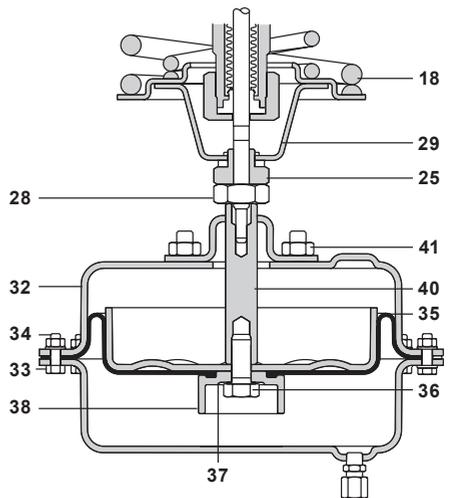

Fig. 9
4.4.1 To renew actuator diaphragm and sealing washer (Figure 9):
- Remove the actuator housing nuts and bolts (33, 34) and separate actuator housing (32).
- Unscrew hex. headed bolt (36) and remove bolt, diaphragm clamp (38), sealing washer (37), diaphragm (35) and spindle (40).
- Fit a new diaphragm (35).